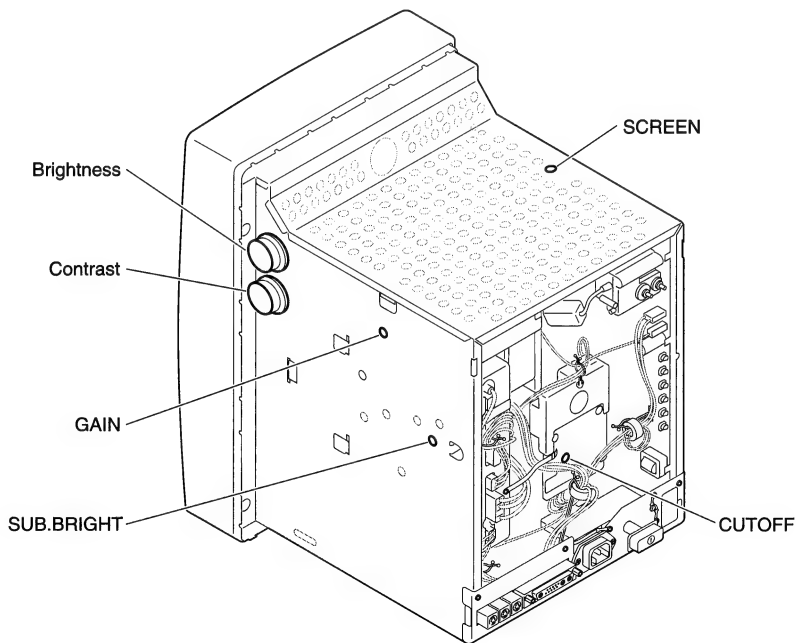

Figure 7 Video Adjustments
2. FIGURE 7. Turn the SCREEN control to maximum (full counterclockwise).
3. FIGURE 7. Turn the GAIN control to its center position.
4. FIGURE 7. Turn the SUB.BRIGHT control to maximum brightness (full clockwise).
6. FIGURE 7. Turn the brightness and contrast controls to maximum (full clockwise).
7. FIGURE 7. Turn the CUTOFF control clockwise until retrace lines are just visible on the display. Then turn the CUTOFF control counterclockwise until the retrace lines just disappear.
9. FIGURE 7. Adjust the SUB.BRIGHT control so that bar 1 is completely black.
11. FIGURE 7. Set the brightness control to maximum (full clockwise) and recheck the screen luminance. If the screen luminance measures out of the "11" scale on the light meter, repeat steps 8 through 11.